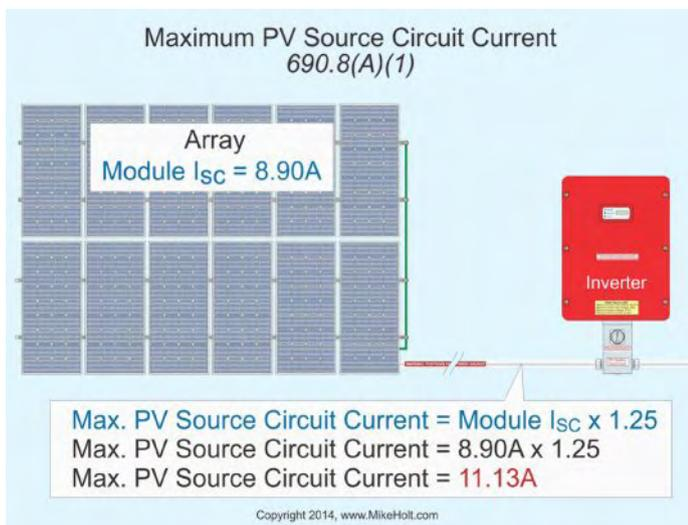

Figure 690-36
**Example:** What's the maximum PV source circuit current for 12 series connected dc modules having a nameplate  $I_{sc}$  of 8.90A? Figure 690-36